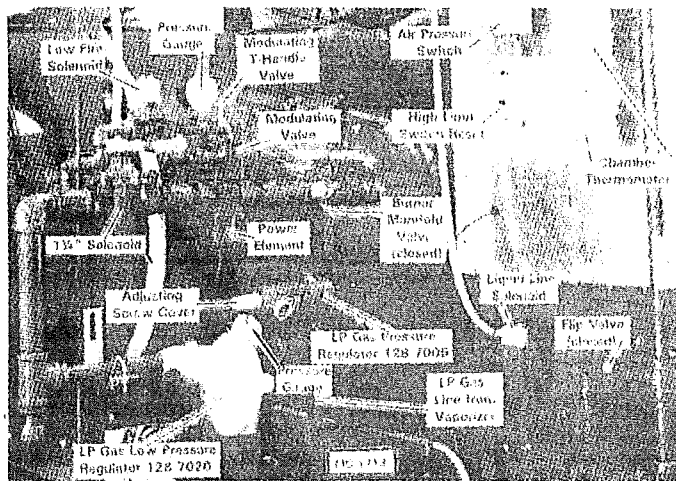

Figure 16
3. Close the gas hand valve for burner(s) (handle 90° to the piping). See Figure 16.
4. Check the modulating valve in gas manifold(s) to be sure the "T" handle has not been turned all the way in to the wide open position. See Figure 16. The "T" handle should be halfway between the closed and fully open position.
- Be sure high-low switch is in the LOW position. Open the burner gas manifold hand valve (Figure 16) all the way until it stops at preset position. Turn the burner ignition switch to the ON position. After a (15) second delay the gas valve light will be ON and the burner will light.